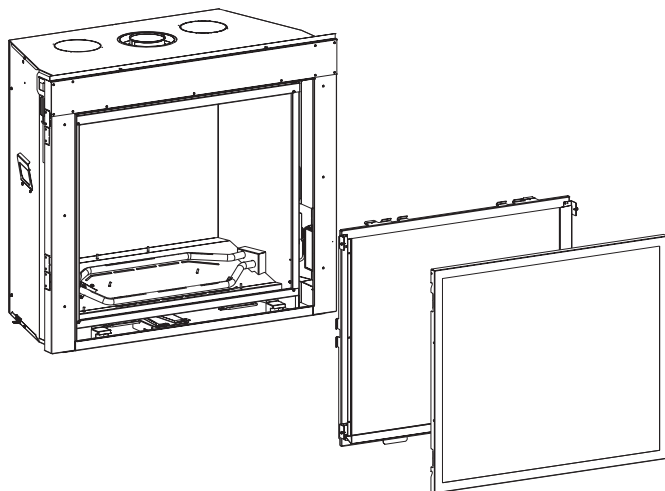

Figure 75
1. Remove the following items: **See Figure 75.**